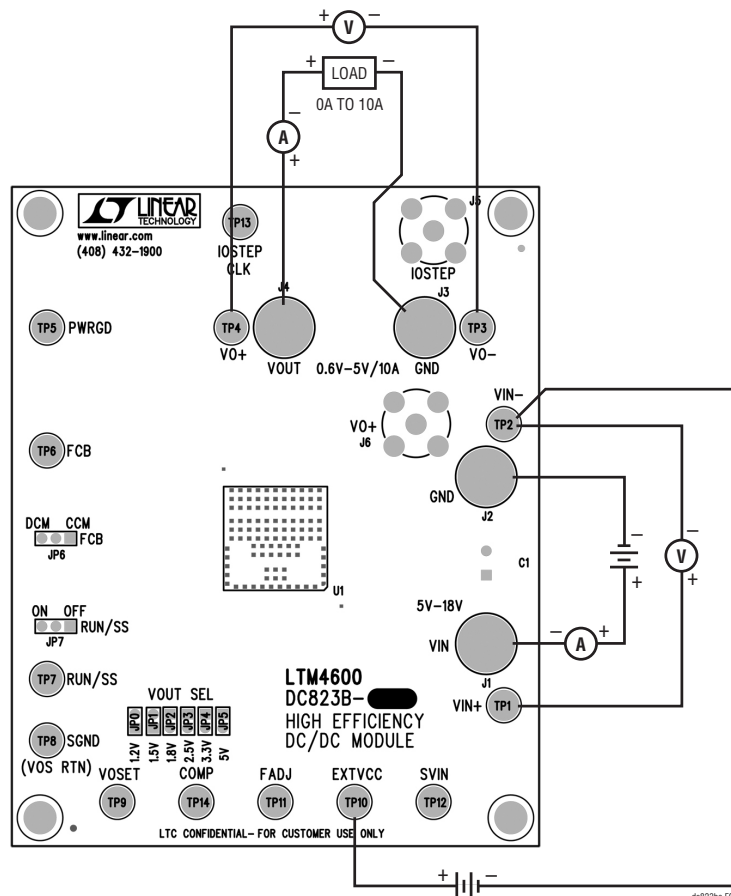

Figure 1. Test Set-Up of DC823B-B (EXTVCC  $V_{BIAS}$  Supply is Optional)
Demonstration circuit DC823B-B is easy to set up to evaluate the performance of the LTM4600HVEV. Refer to Figure 1 for proper measurement equipment set-up and follow the procedure below:
2. With power off, connect the input power supply, load, optional 5V bias supply and meters as shown in Figure 1. Preset the load to 0A and  $V_{IN}$  supply to be less than 28V. The optional 5V bias supply applied to the EXT VCC pin must be off while the main  $V_{IN}$  is turned off.